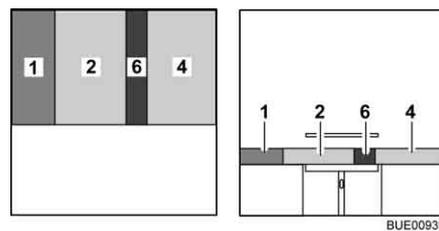

Fig. 88 After conversion
- Place the back cushion (Fig. 88,1) between the seat cushion and the wall.
- Place the additional cushion (Fig. 88,6) between the seat cushions (Fig. 88,2 and 4).